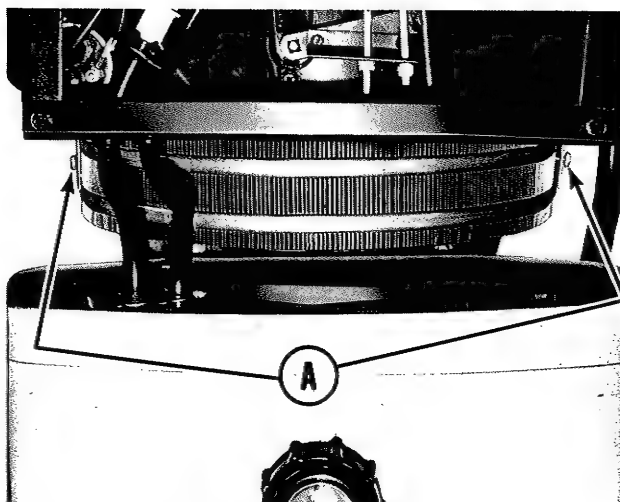

Figure 8. Transmission oil cooler as seen from above tractor.
2. See figure 8. Remove the screws (A) at each end of the transmission oil cooler and raise the left end of it to expose the main drive belt tension adjustment.